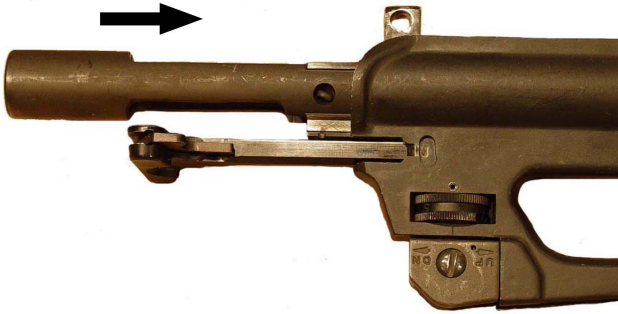

Figure 3-28. Charging Handle and Bolt Carrier Group
- c. Push charging handle and bolt carrier group together. Refer to Figure 3-28.